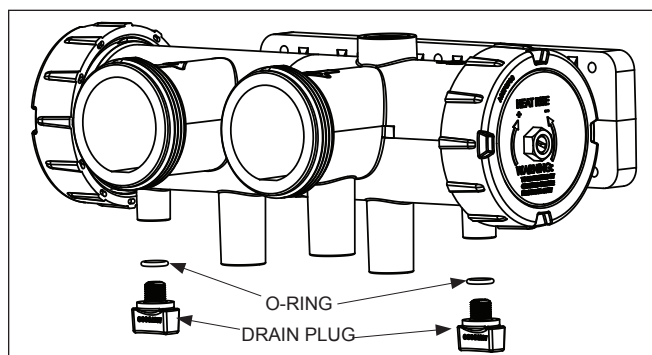

Figure 21. Draining the Heater
4. Remove the drain plug from the inlet/outlet header, and completely drain the heater before the first frost. See Figure 21.